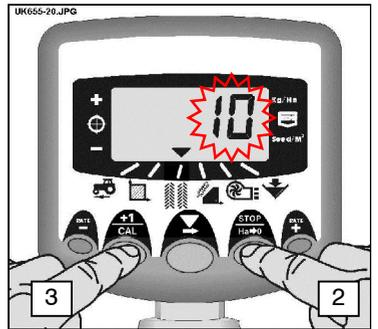

Figure 20: Set % Rate Step
2. Press  to select channel 3. The display will show a number indicating the % step (5 - 25% in 5% increments) (fig. 20).